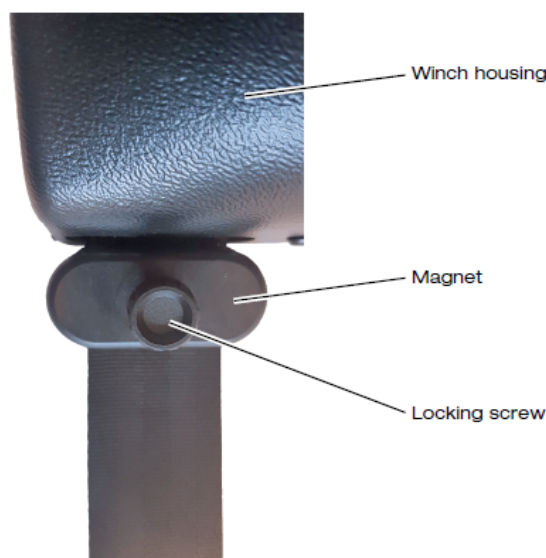

Figure 14: Magnet in Contact with the Winch Housing
- Adjust the magnets, such that they make contact with the winch housing (see Figure 14, page 22). A beeping sound signals that the winch is latched in position. The red LED on the control unit lights up.
(See Figure 14, page 22.)